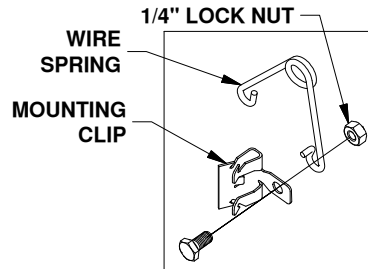
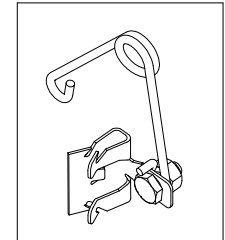

Figure D1: Leveling kit parts.
Figure D2: Assembled leveling kit.
- 1. Assemble kit.** Locate the 1/4" cap screw and nut, along with the wire tension spring and mounting clip. Pass the 1/4" cap screw through the mounting clip and the wire spring, as shown in Figure D1. Thread the 1/4" lock nut onto the 1/4" cap screw. Tighten the lock nut just enough that the spring will stay in place but will still be able to rotate around the bolt if needed, see Figure D2.